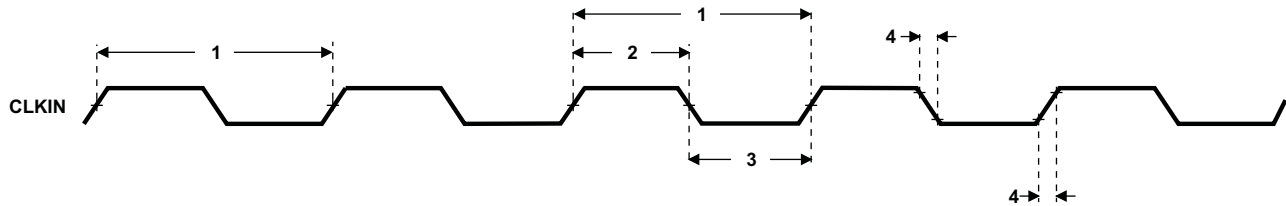

Figure 5-9. CLKIN Timing
Table 5-4. Timing Requirements for CLKIN^{(1) (2)} (see Figure 5-9)